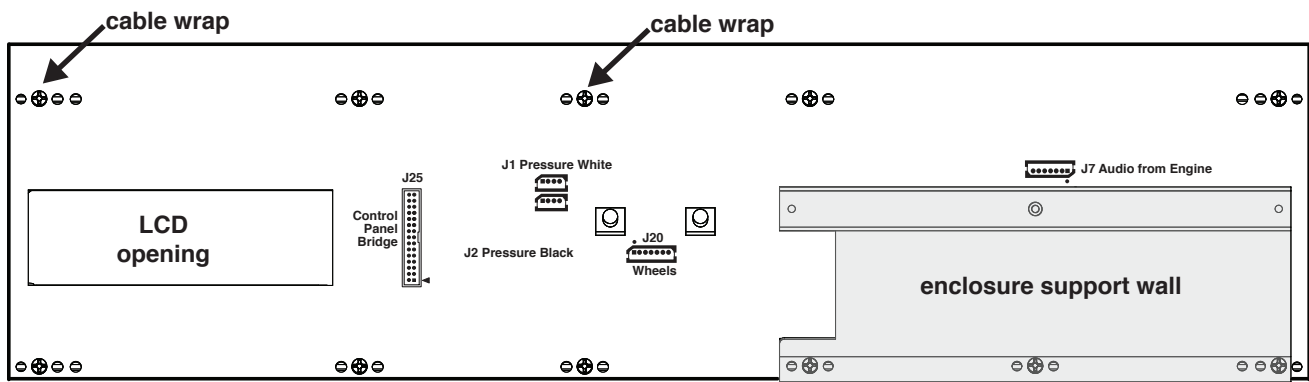

Figure 4-8 Left Front Panel PCB connector and hardware locations
3. Install the eight screws that secure the Left Front PCB to the top enclosure. Cable wraps should be at two of these locations (see Figure 4-8).